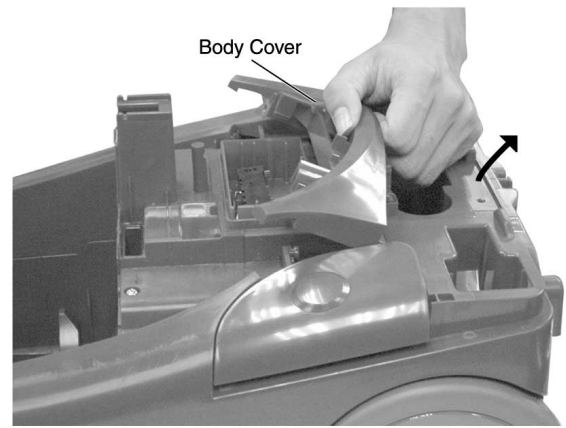

Fig.7
7. Remove the Body Cover Upward as shown. (Fig7)